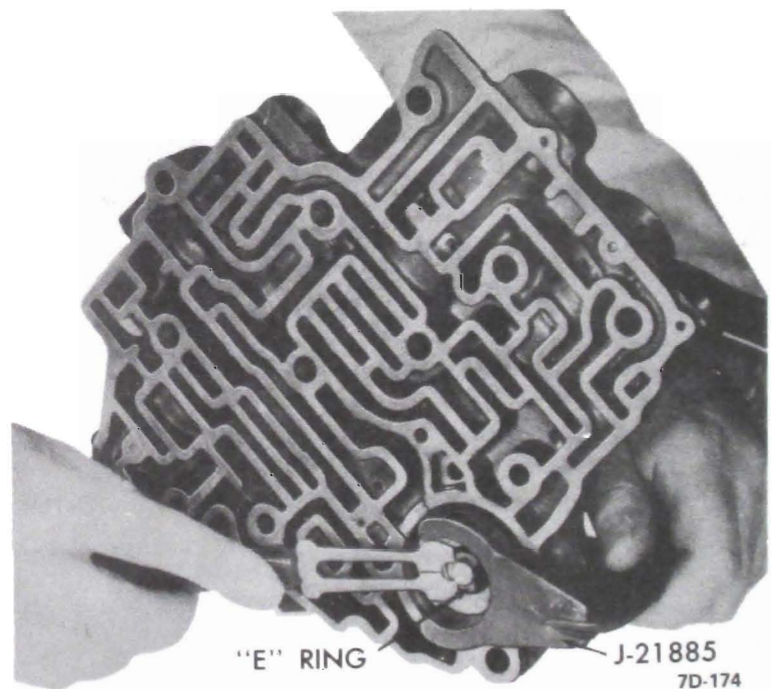

Figure 7D-174
2. Install special Tool J-21885 and compress spring and piston. Secure with retaining "E" ring. See Figure 7D-174.